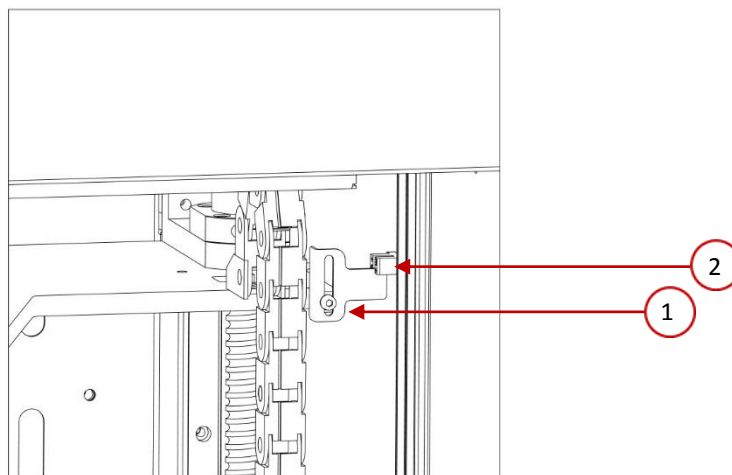

Fig. 8 1. Z axis breaker | 2. Z axis endstop
- confirm that the breaker of the optical beam of the Z axis endstop (fig. 8) is not damaged, broken or bent and that it coincides with the Z axis endstop (is aligned with the endstop notch);